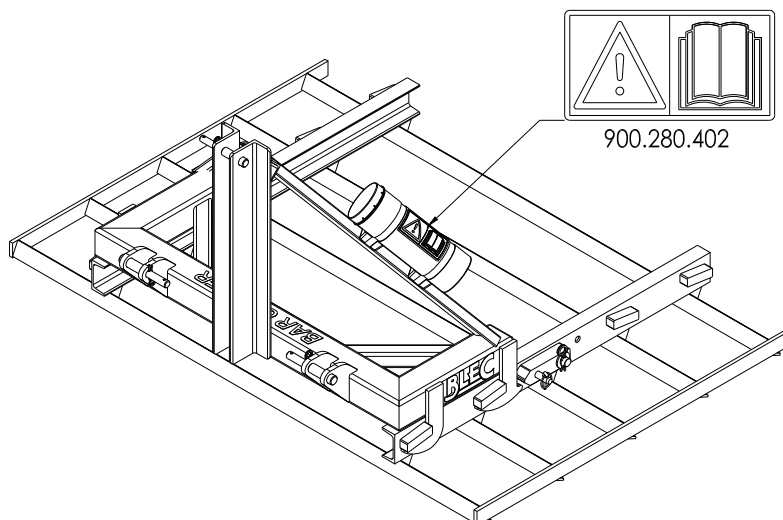

Fig. 5
Safety stickers (Figs. 2, 3, 4) with the same meaning are present on both sides of the BAR GRADER (Fig. 5). Ensure these safety stickers are always clearly visible and legible. Replace them if they are damaged.
(7) Location of safety stickers (Fig. 5).